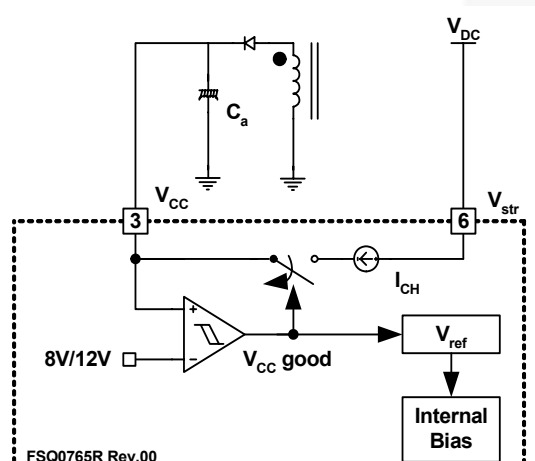

Figure 22. Startup Circuit
1. Startup: At startup, an internal high-voltage current source supplies the internal bias and charges the external capacitor (C_a) connected to the V_{CC} pin, as illustrated in Figure 22. When V_{CC} reaches 12V, the FPS™ begins switching and the internal high-voltage current source is disabled. The FPS continues its normal switching operation and the power is supplied from the auxiliary transformer winding unless V_{CC} goes below the stop voltage of 8V.